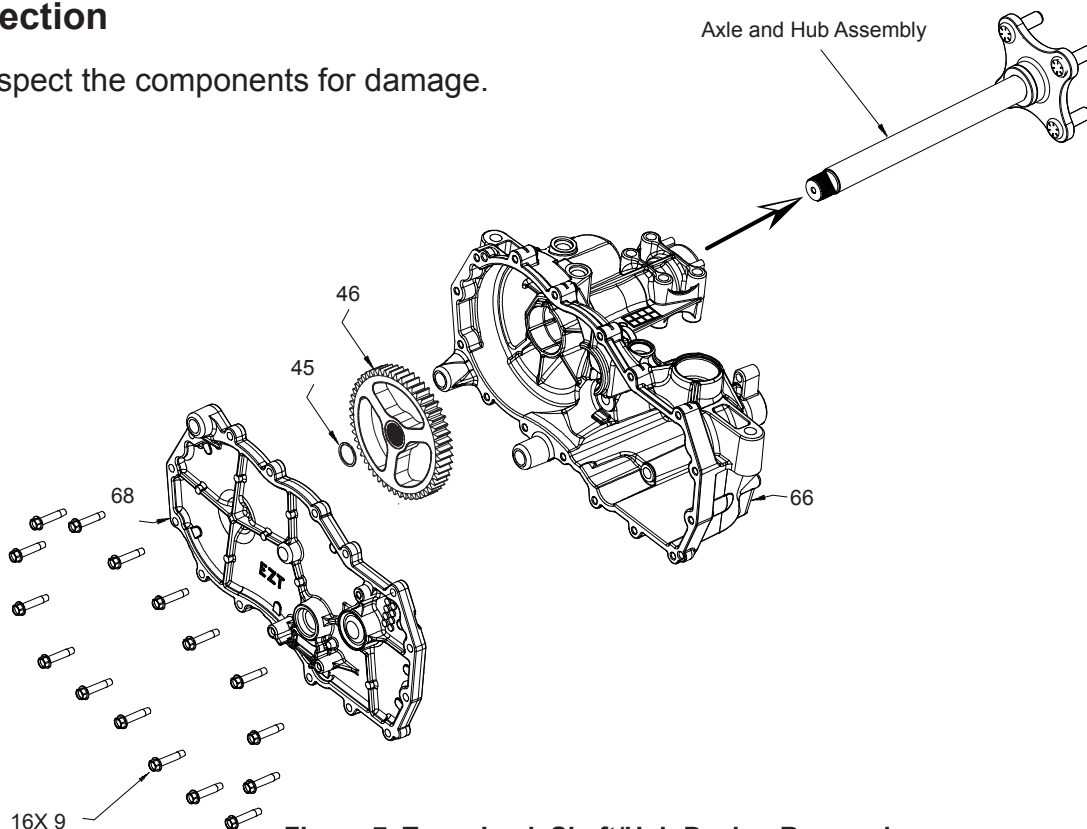

Figure 7. Taper Lock Shaft/Hub Design Removal.
Refer to Figure 7.
2. Remove the side housing screws (9).
3. Remove side housing (68).
4. Remove axle retaining ring (45).
5. Remove bull gear (46).
6. Slide axle shaft and hub assembly out of main housing in the direction of the arrow (Figure 7).